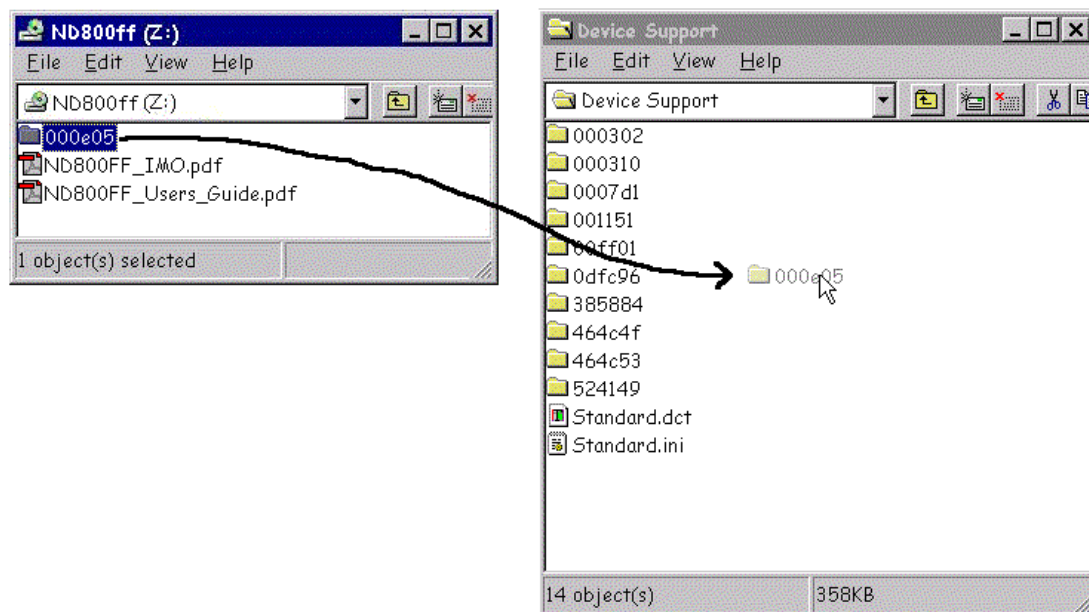

Figure 1. DD installation.
1. Locate the host sw release directory. It contains folders alike those in figure 1.